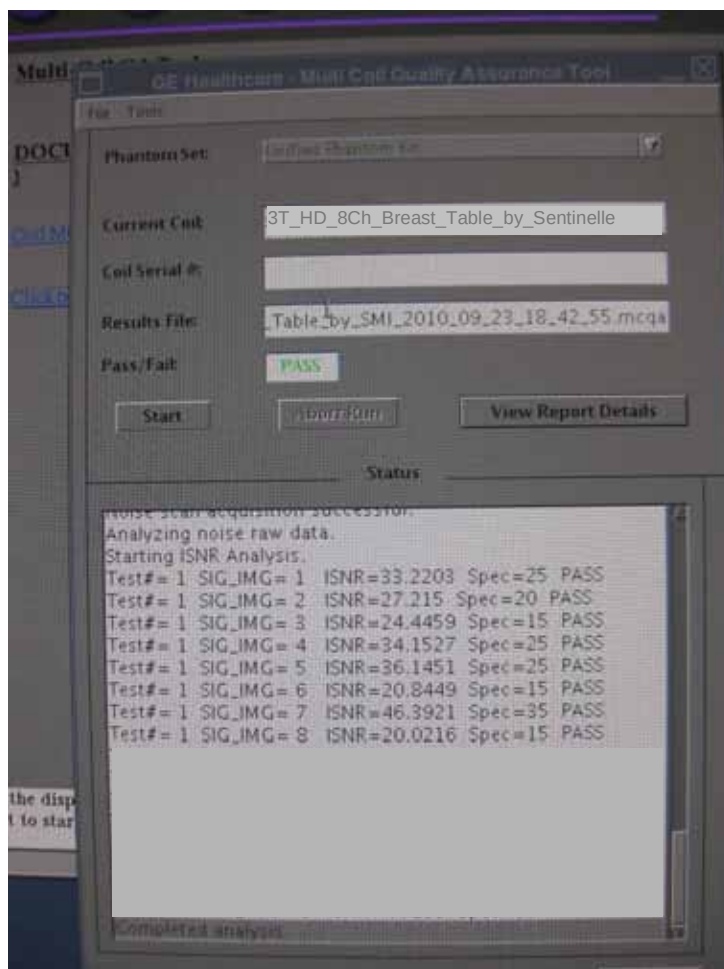

Figure 63: Screen Capture – MCQA Tool Finish
7. Click 'Start', and answer 'Yes' to the dialog box that opens. The MCQA program will run for approximately 10 minutes, and test each channel of the system independently. When the program finishes, the screen capture shown in Figure 63 will appear.